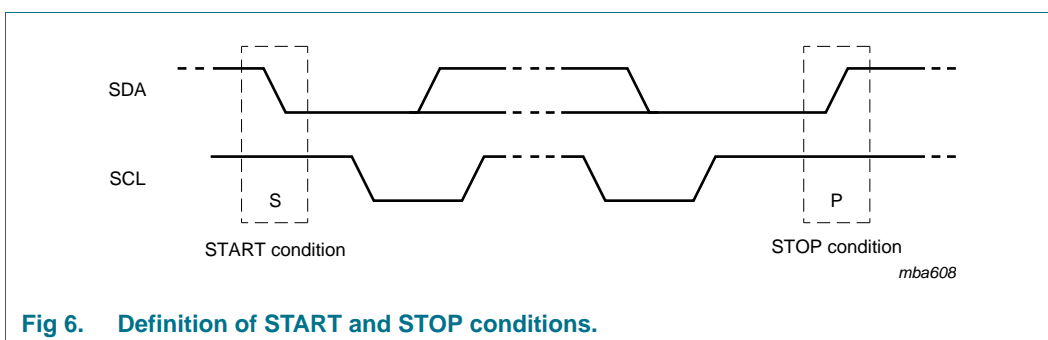

Fig 6. Definition of START and STOP conditions.
Both data and clock lines remain HIGH when the bus is not busy. A HIGH-to-LOW transition of the data line, while the clock is HIGH is defined as the START condition (S). A LOW-to-HIGH transition of the data line while the clock is HIGH is defined as the STOP condition (P). See Figure 6.